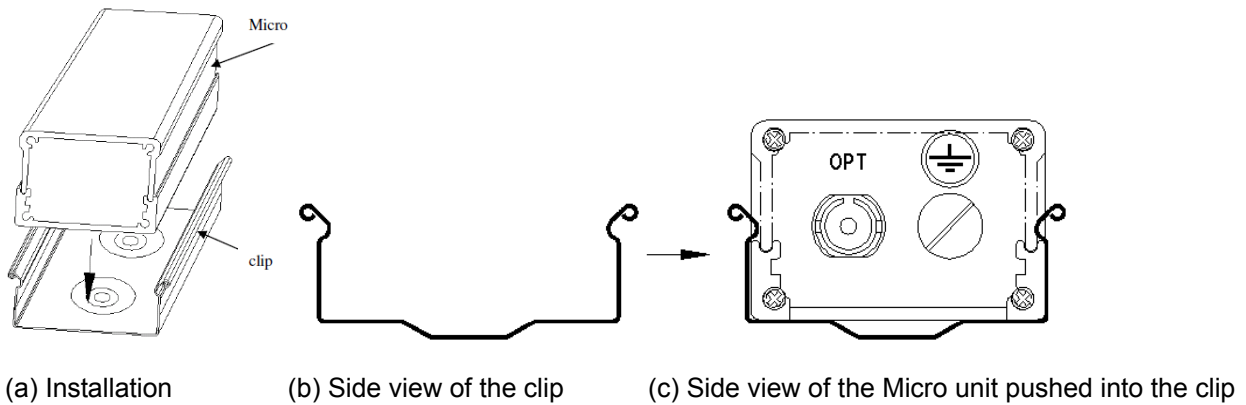

Fig. 3.3 Micro unit installation on the clip
c) Push the Micro unit into the clip to secure it in position. For details, please follow Fig. 3.3.